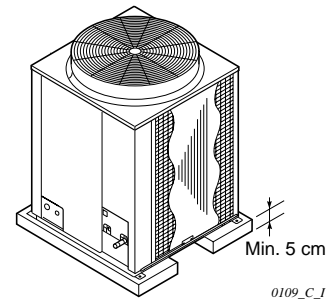

Fig. 4-2
- (1) Install a block or a solid platform under the outdoor unit which provides a minimum height of 5 cm from ground level. (Fig. 4-2)